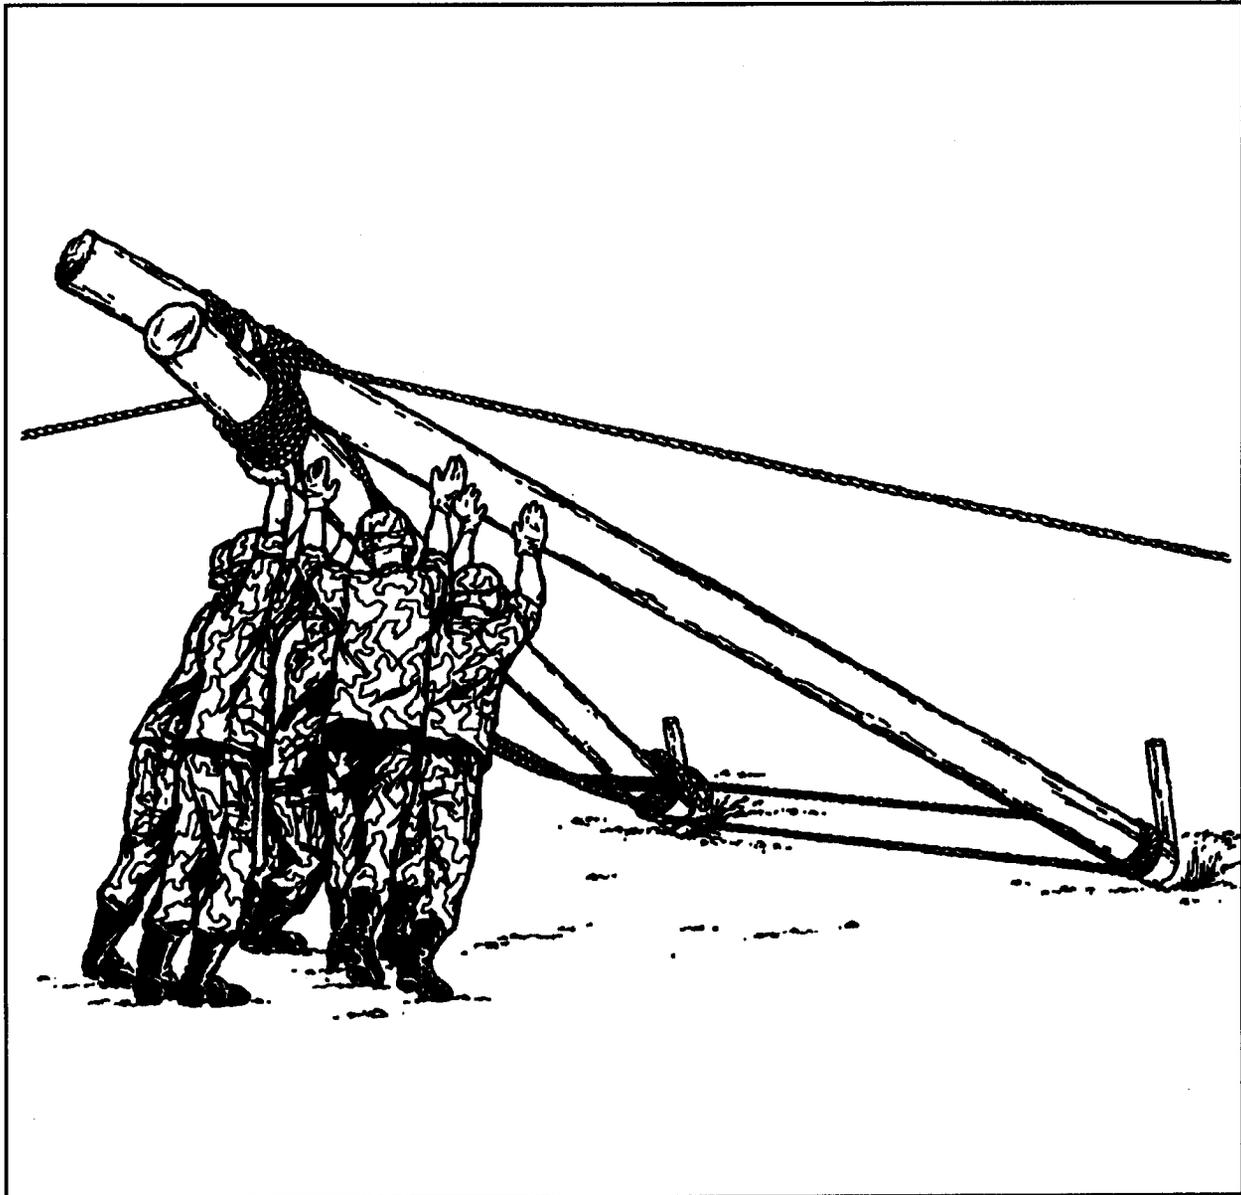

Figure 5-7. Erecting shears
- Lift the top end of the shears legs and “walk” them up by hand until the tackle on the rear guy line can take effect (see *Figure 5-7, page 5-10*). It will take several people (depending on the size of the shears) to do this. Then raise the shears legs into final position by hauling in on the tackle. Secure the front guy line to its anchorage before raising the shears legs, and keep a slight tension on this line to control movement.